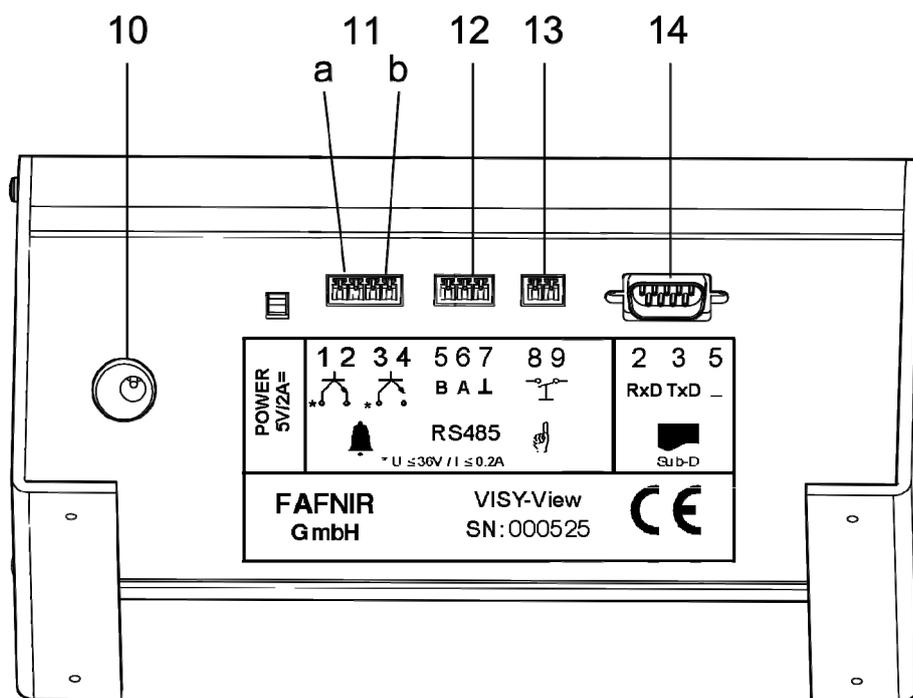

Figure 3: VISY-View interfaces
Through connection 13 (see Figure 3) an accessible key switch can be mounted for use by tanker drivers in case the filling station has already closed. Before refilling, a repetitive turning of the key switch will bring the relevant data of all the tanks one after another onto the display screen. Which three Tank data for a tank should be displayed are selected in sub menu "Configuration" under "DspTruck" menu point (see section "Truck display" in chapter "Configuration").
- (5) Connect a key switch if required via remote input 13 (see Figure 3).
- (6) Connect the VISY-View display via connection 10 (see Figure 3) and the enclosed power supply unit to the power supply system.